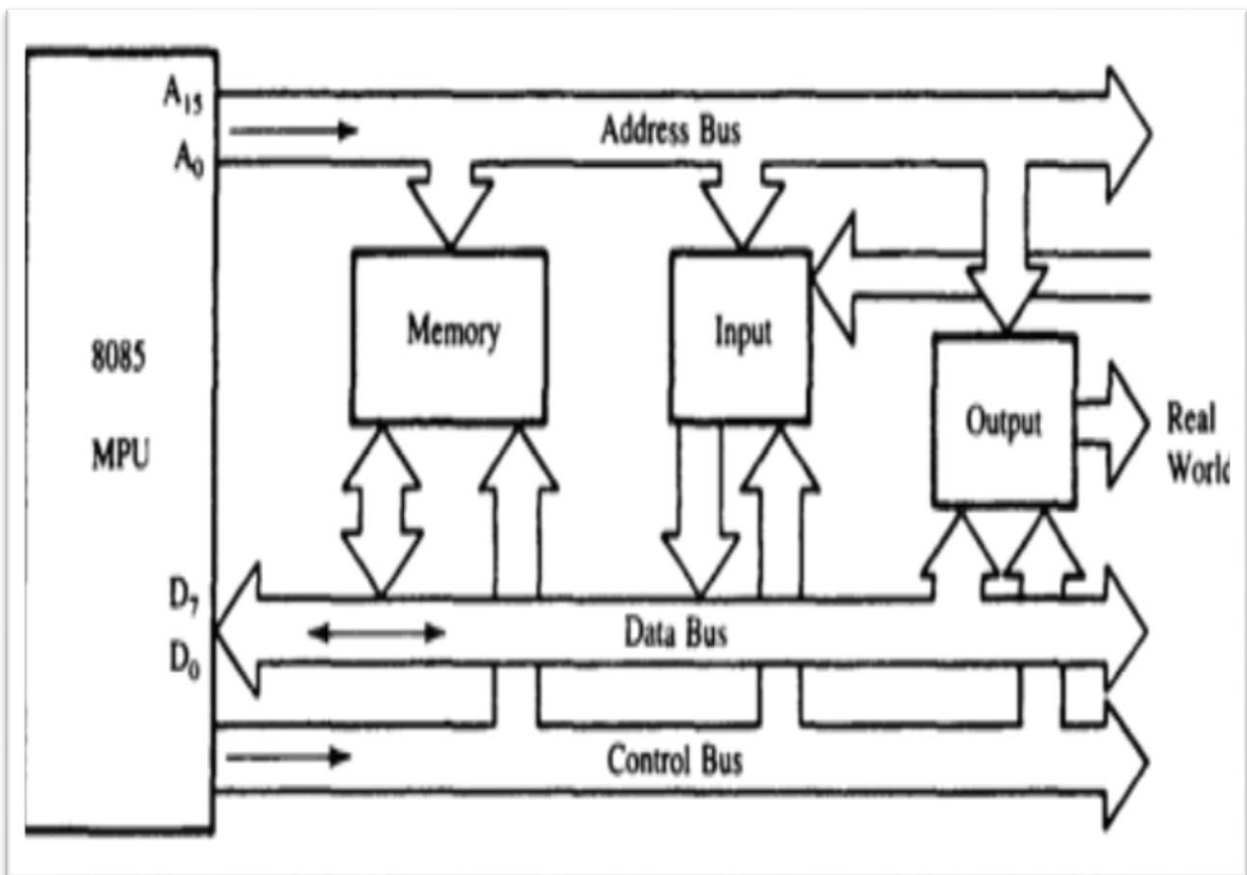

Figure 4: The 8085 bus structure
The ALU includes five flip-flops, which are set or reset after an operation according to data condition of the result in the accumulator and other registers. They are called Zero (Z), Carry (CY), Sign (S), Parity (P) and Auxiliary Carry (AC) flags. Their bit positions in the flag register are shown in Fig. 4. The microprocessor uses these flags to test data conditions.
The schematic representation of the 8085 bus structure is as shown in Figure 4. The microprocessor performs primarily four operations:
The 8085 processor performs these functions using address bus, data bus and control bus as shown in Figure 4.